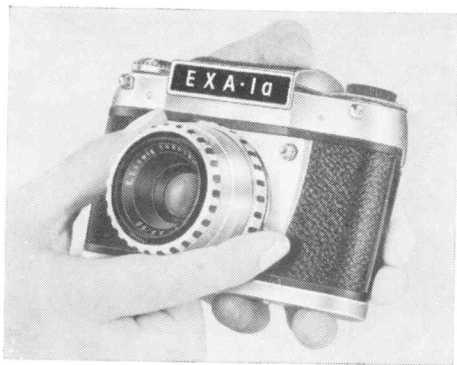

Fig. 5
The lens (1) is interchangeable: press the bayonet catch (18) inwards, turn the lens to the left (Fig. 5) until the two red dots (2 and 7) are adjacent, and then lift out the lens towards the front. To insert a lens, proceed in the reverse sequence; line up the red dots and turn the lens to the right until it locks into position.